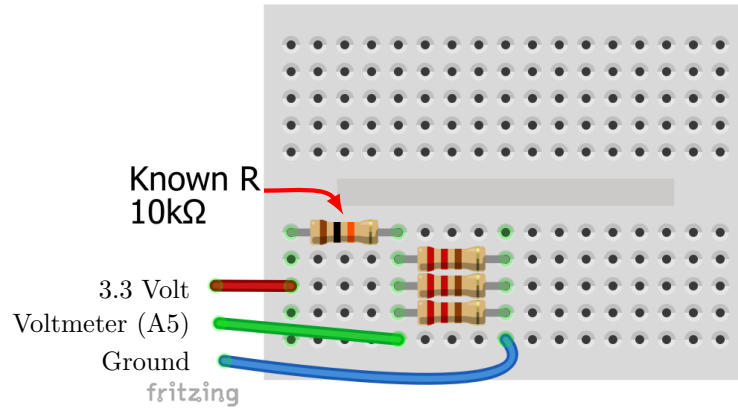

Figure 4: Three resistors in parallel circuit diagram
4. Repeat steps 1-3 with circuits that contain at least two or three resistors in parallel (Figure 4).